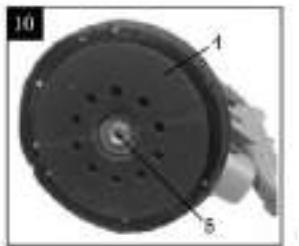

Fig.10
1. Removal of the sanding plate. (Fig.10) Hold the sanding plate (4). Loosen the screw (5) with an Allen key (17) and turn anticlockwise. Remove the sanding plate (4).
2. Assembling the sanding plate (Fig.10)